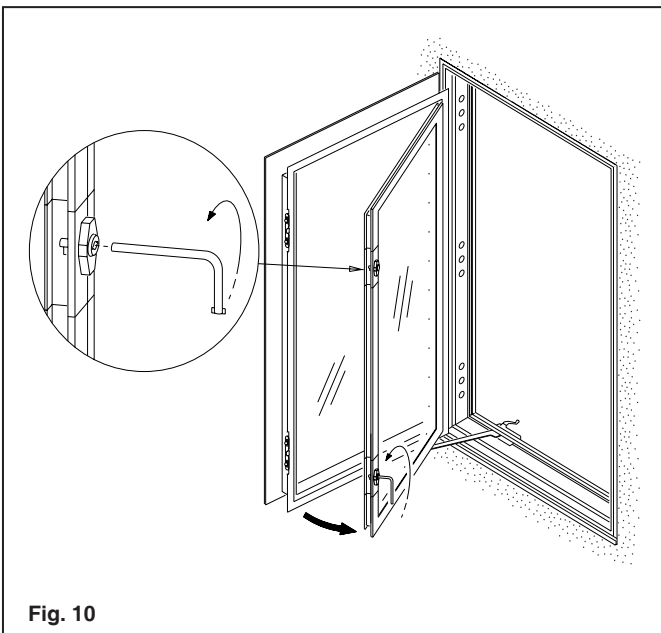

Fig. 10
A. This casement window comes with a secondary sash. An L-shape janitor's key should have come with the window for operating the locks on the secondary sash. With the long end of the key, turn the top lock counter-clock wise to unlock it. See **Fig. 10**. The lock is spring loaded, so a little pressure while turning is needed. Now, take the short end, the end with the two tabs, and unlock the bottom one. The key will remain in the lock and can be used as a handle for pulling the sashes apart. To close up the unit, just reverse the process.